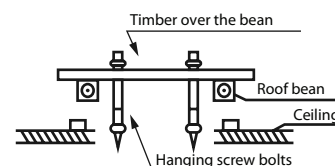

FIG. 5-3
- Please Refer to Fig. 5-3 and Fig. 5-4 for the hanging screw bolts distance.